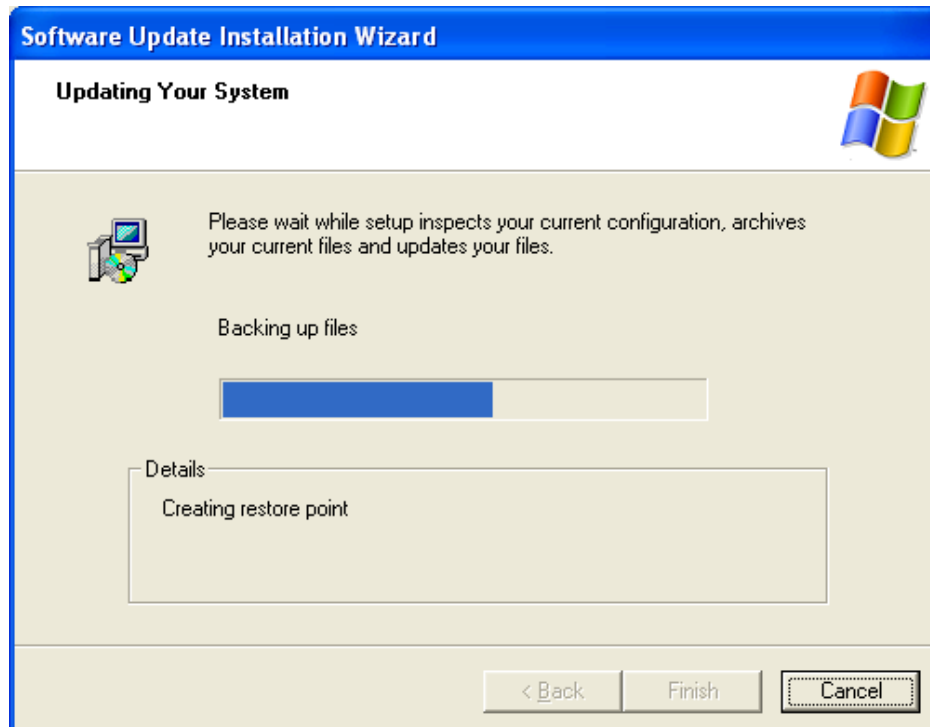

Figure 6-24: System Update
Step 5: The system updates. See Figure 6-24.